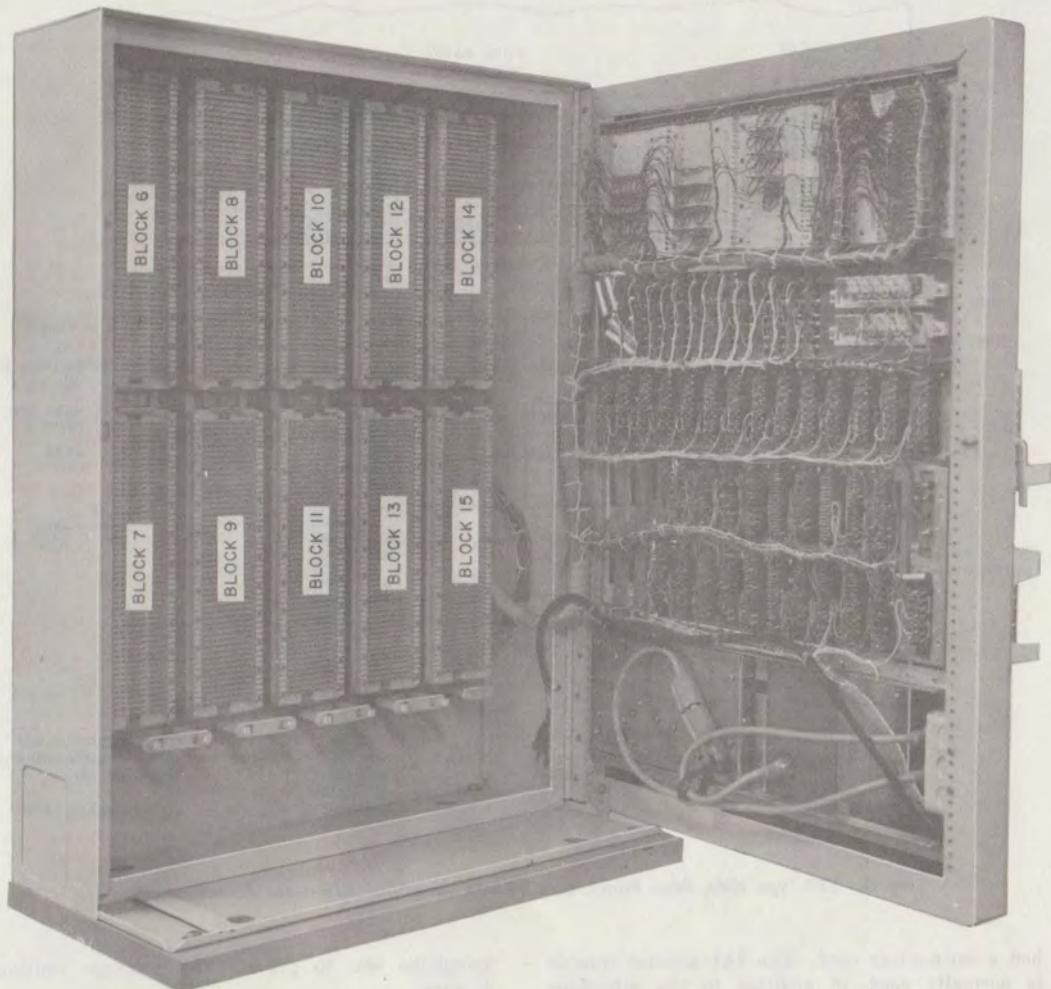

Fig. 2—580-Type KSU (Gate Open)
- 2.09** All wiring connections are made on connecting blocks located in the KSU (Fig. 2). As all stations pick up all lines and each line appears on the same button at all telephone sets, all equipment connections are factory-wired to the connecting blocks.